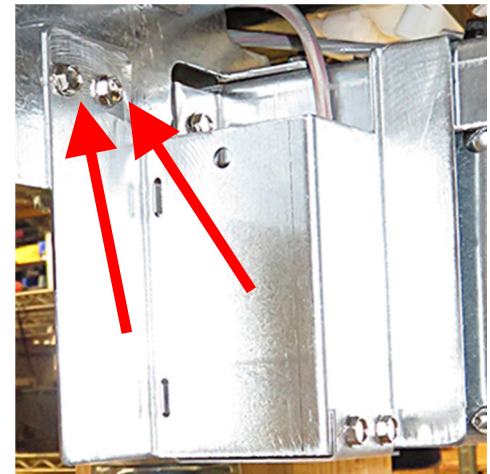

Figure 8
10. Remove the splash shield on the left side of the transformer box, as viewed from the front of the fryer, by removing the two (2) screws connecting the shield to the frame (see Figure 8).